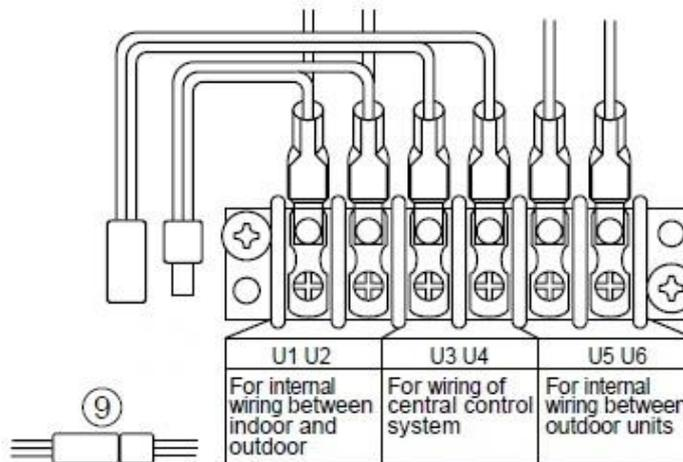

Fig 4
U1, U2 & U3, U4 is Disconnected, (Factory default DISCONNECTED) (Fig 4)
- 4) Confirm that the “White Link Plug & Socket” connected between U1 & U3 / U2 & U4 on the “Lead” outdoor unit is **DISCONNECTED**. Refer to Fig 4
- 15) If a central controller or BMS system is to be used, Connect the “relay connector” on terminals U3 & U4 at the lead outdoor unit, refer to fig 4 above.